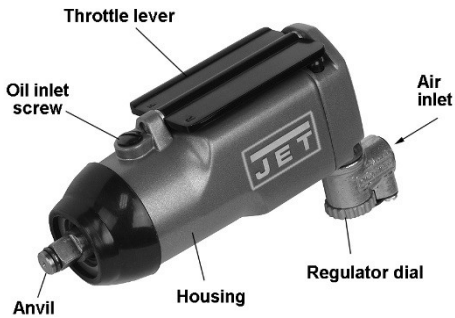

Figure 1
1. Remove protective cap from air inlet (Figure 1). If an in-line oiler is not being used, add 4 or 5 drops of air tool oil (not included) into the air inlet.
2. Place 4 or 5 drops of air tool oil into air inlet (Figure 1).
The impact wrench should also be lubricated **weekly** with several drops of air tool oil through the housing inlet (Figure 1). Remove screw to access. Reinstall screw before operating.